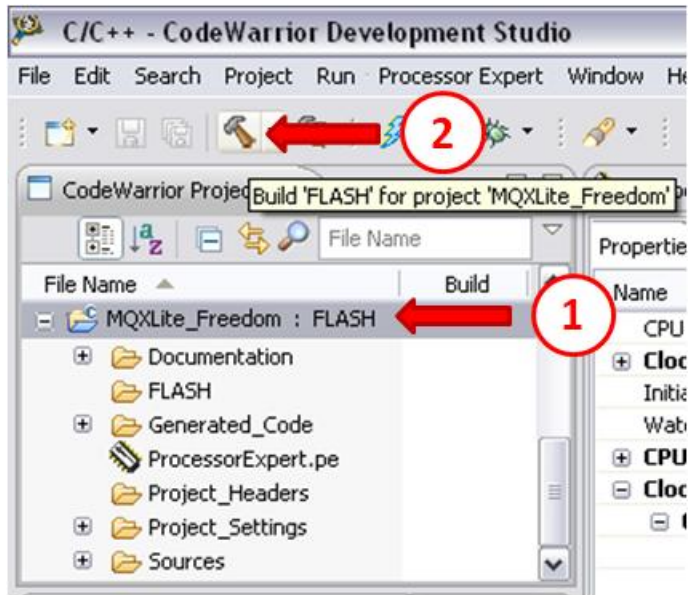

Figure 24. Compiling the project
4. It is necessary to compile the project to verify that there are no errors while using the generated code. To compile the project go to the "CodeWarrior Projects" window. Click in the Project name and then click in the compile button. In Figure 24 are the steps.